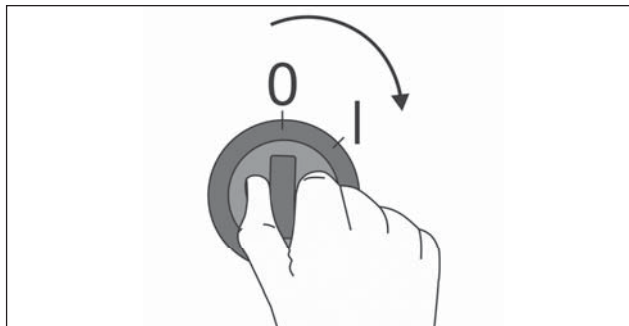

Fig. 10.1
3. Set the power supply switch located on the terminal box to «I» position (Fig. 10.1).